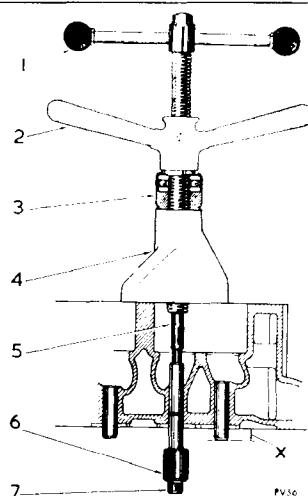
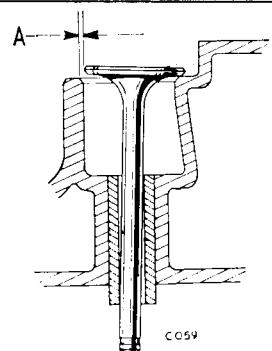

Fig. 39. Renewing valve guides using tool No. S 60A
Fig. 43 Assessing valve guide wear
Check the valve guide wear by inserting a new valve, lifting it $\frac{1}{8}$ " (3.2 mm.) from its seat and rocking it sideways (Fig. 43). Movement of the valve head across its seat must not exceed 0.020" (0.5 mm.). If required, renew the guide by using Churchill Tool No. S.60.A (Fig. 39).
Pull the new valve guide into the cylinder head from the valve spring side. Use of the correct limiting sleeves (item 6 Fig. 39) will ensure that the guide protrudes the mean distance 0.75" (19.05 mm.) above the cylinder head when fitted.
Should it be necessary to use a 15 degree cutter for reducing the seat width, do not exceed the dimension "B" (Fig. 39) as this will prevent the fitting of valve inserts should they be required at a later stage.